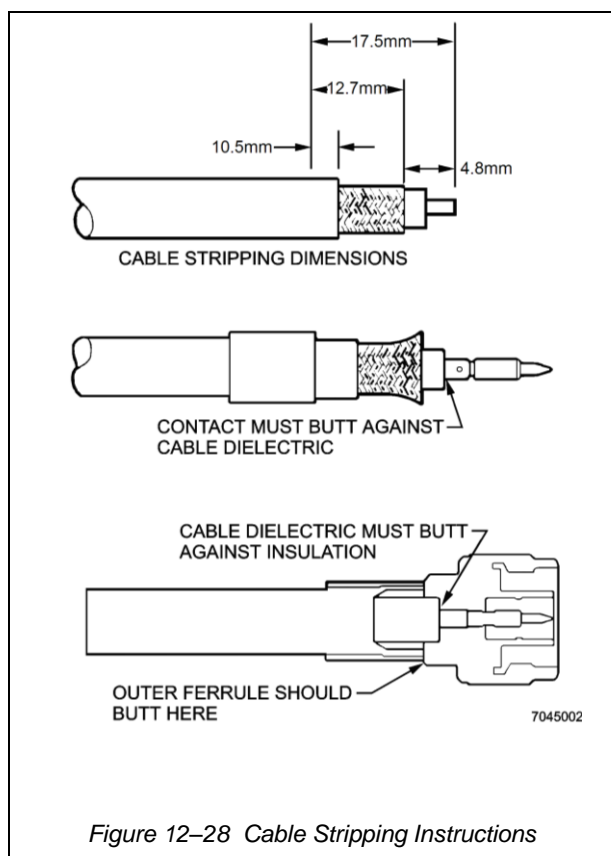

Figure 12-28 Cable Stripping Instructions
- b. Strip cable jacket, braid, and dielectric to dimensions shown (see Figure 12-28). All cuts are to be sharp and square. Important: Do not nick braid, dielectric, and centre conductor. Tinning of centre conductor is not necessary if contact is to be crimped. For solder method, tin centre conductor avoiding excessive heat.